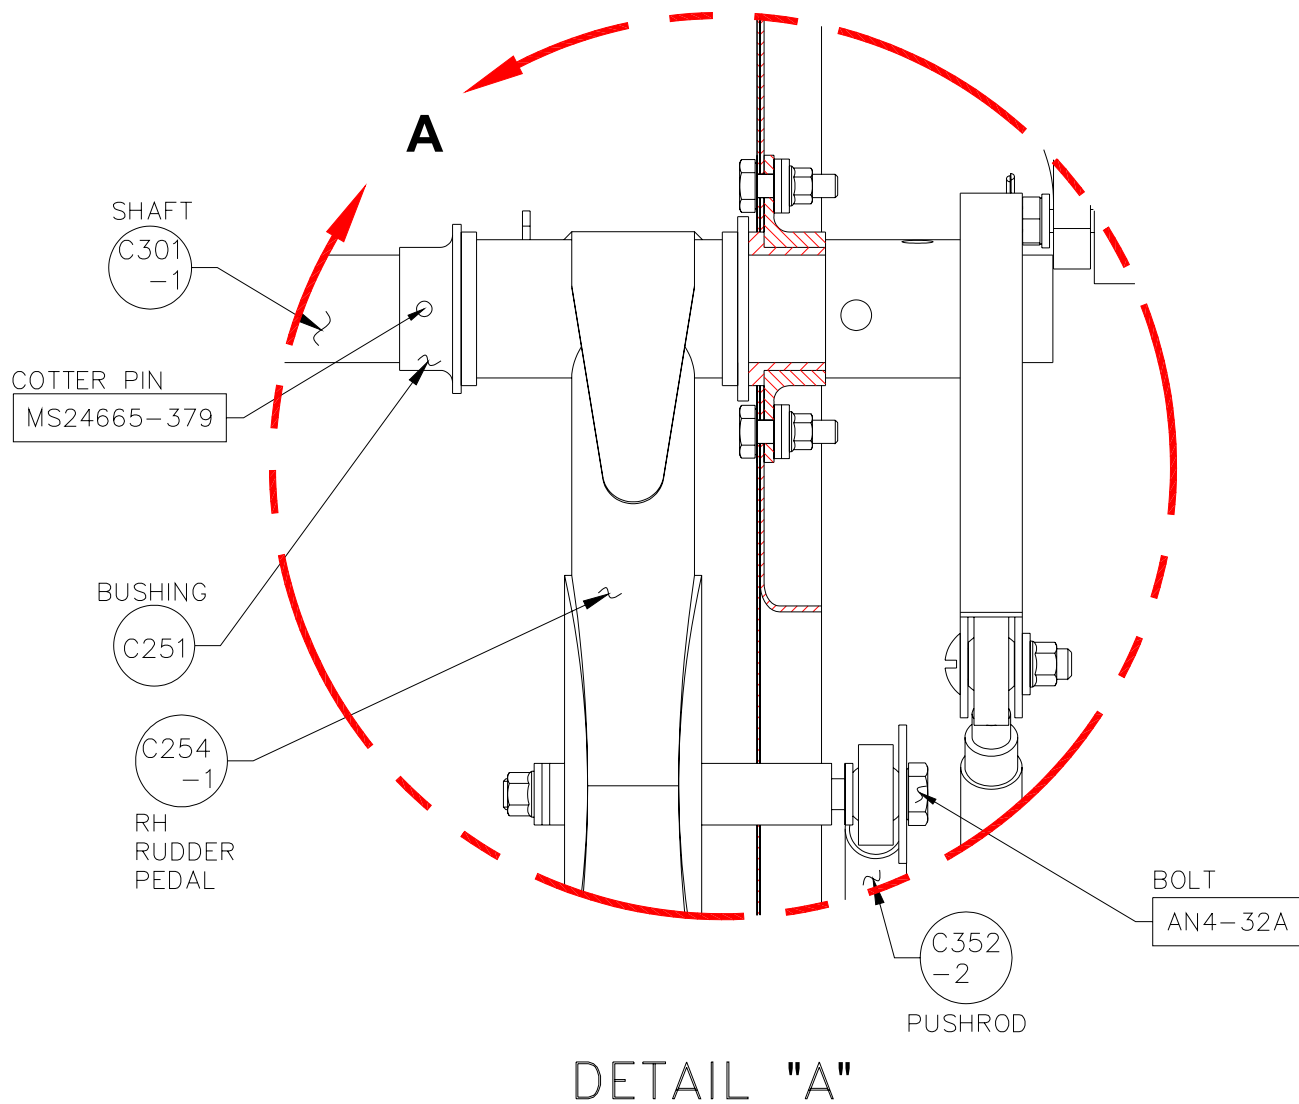

Figure 2
3. Remove cotter pin securing C251 Bellcrank Retaining Bushing. See Figure 2.
5. Remove AN4-32A bolt from C254-1 Pilot Right Rudder Pedal Assembly and C352-2 Rudder Push Rod Assembly. See Figure 2.